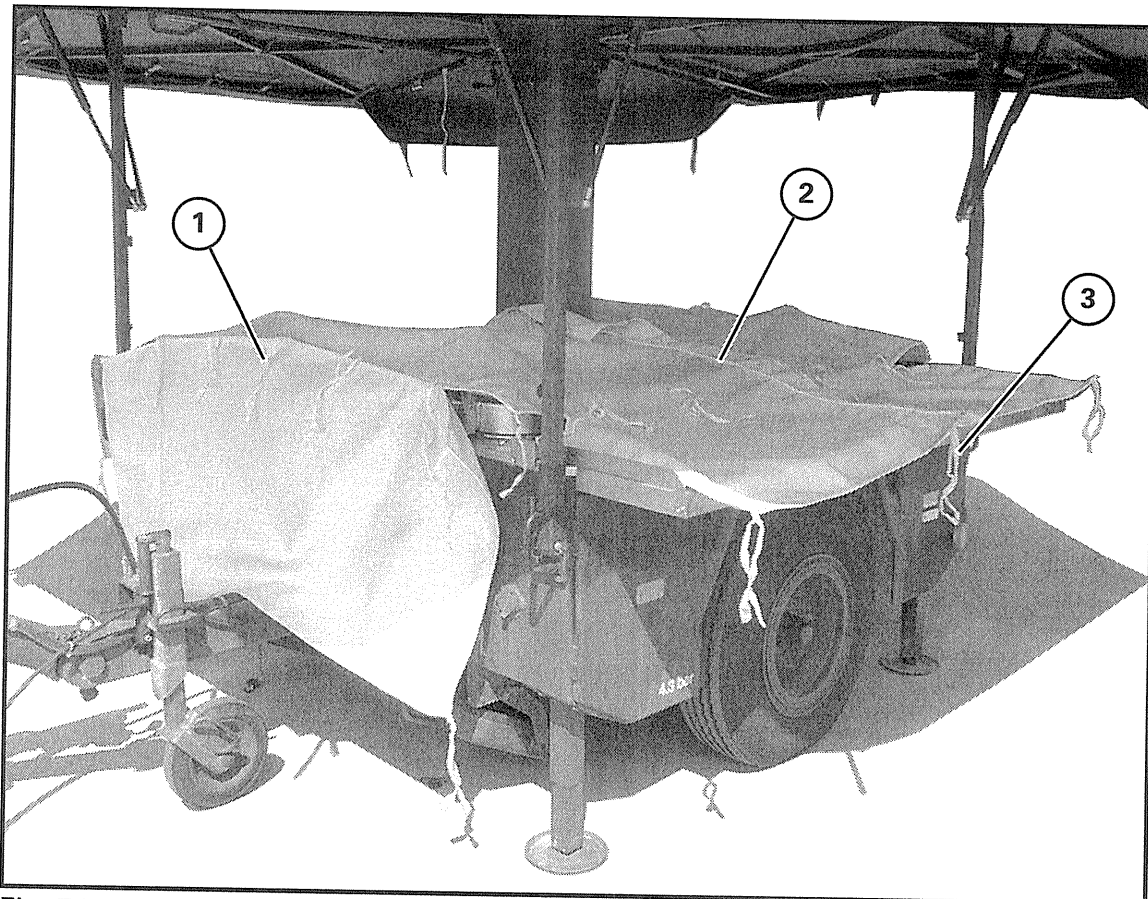

Fig. 71 Fastening the grease fleece
- Place down the dry grease fleece according to Fig. 71 with the coated side facing downward (fleece facing upward) and align centrally.